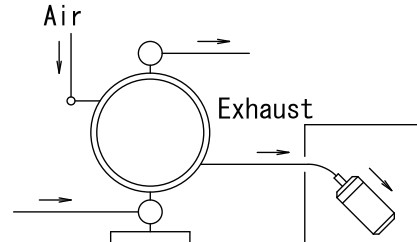

Fig.3.2
- *Exhaust should be directed outside, not into the fluid in which the pump is submerged. For information on how to arrange the exhaust, see Note: Arranging outside exhaust and Fig.3.2 below.